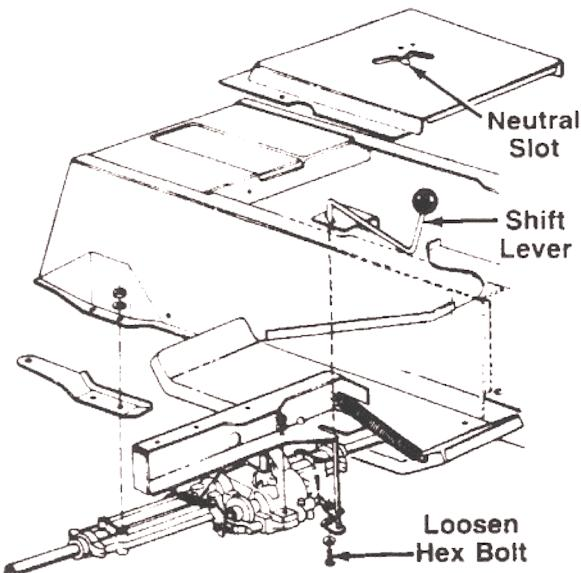

FIGURE 13.
2. Loosen the bolt which secures the shift lever assembly to the shift lever link. See figure 13.
3. Place the shift lever in the natural slot. See figure 13.